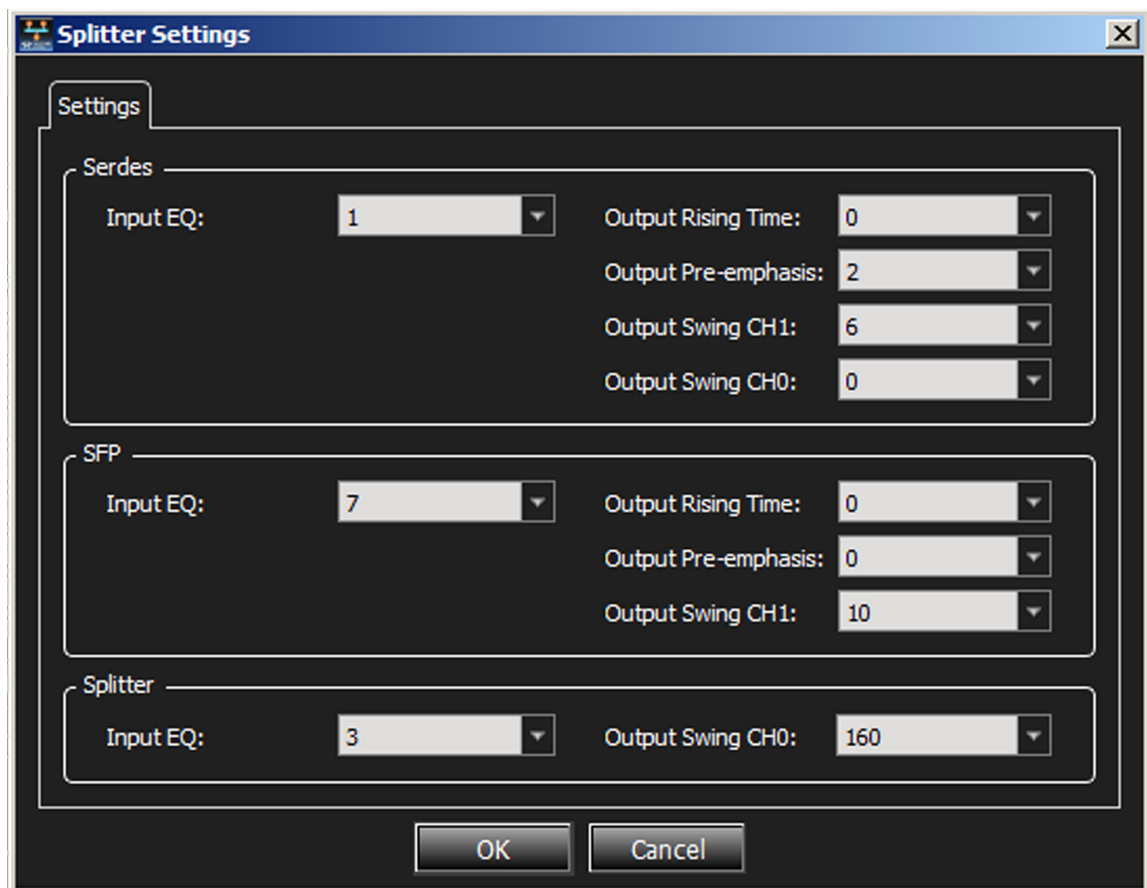

Figure 2.27: Splitter Settings dialog for 10 GigE device.
- ☐ Splitter: Selecting **Splitter** displays the Splitter Settings dialog. (See Figure 2.27 on page 54.)